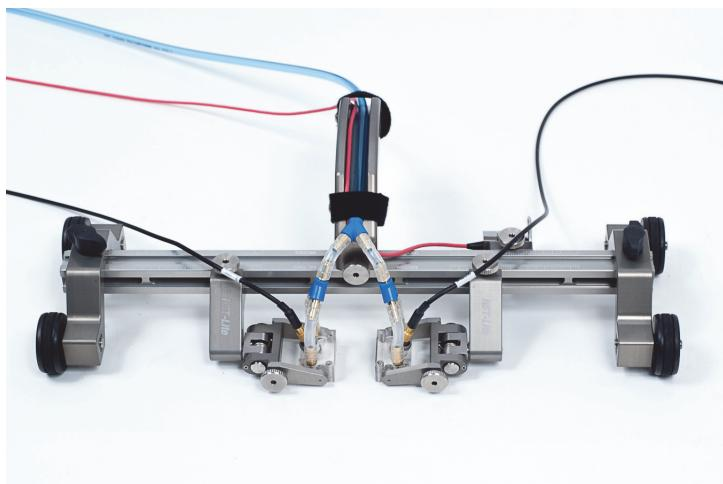

Figure 1-14 Irrigation tube linked to the wedges
9. Link the wedges to the irrigation tube using pieces of transparent tubes cut to the required length (see Figure 1-14 on page 29).